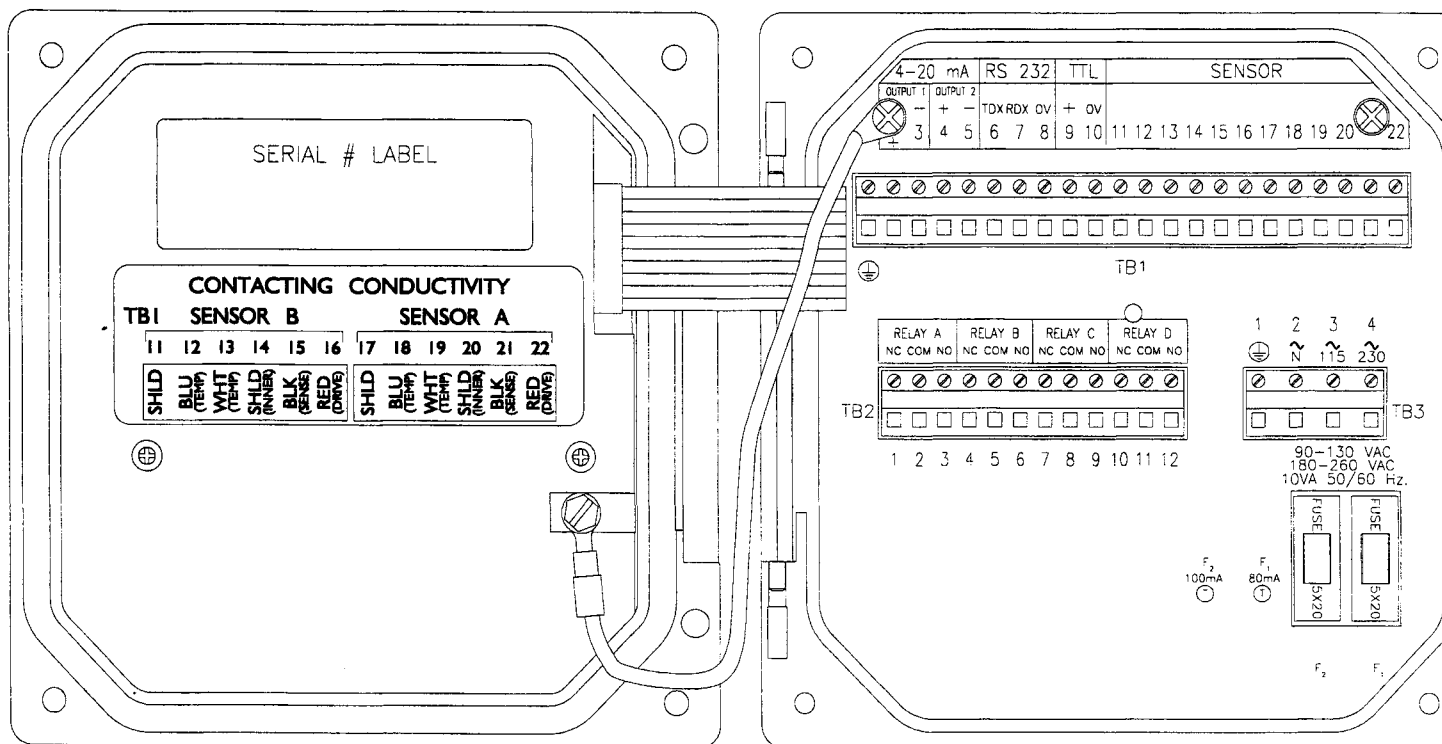

FIGURE 2-4 Terminal Block Designations for Analyzers with "A" or No Letter Prefix Serial Numbers
- The "ground symbol" Terminal 1 on TB1 (Figure 2-4) for analyzers with "A" or no letter prefix serial numbers.